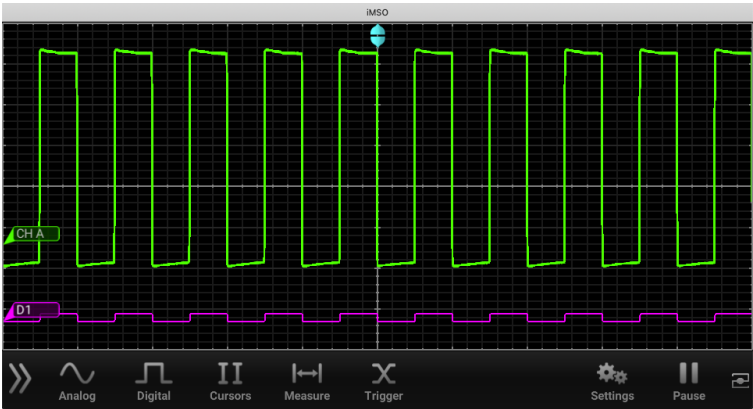

Figure 10. One of the most useful aspects of a mixed signal oscilloscopes is the ability to accurately time-correlate analog and digital channels.
- 5. Now adjust the amplitude of the signal generator back to 5V your screen should look like figure 10.